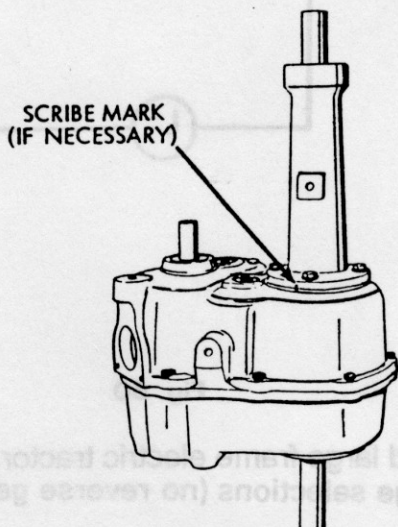

Figure 62 - Remove Axle Housings
NOTE: Mark the position of axle housings (Figure 62) to transaxle case assembly.
4. Remove axle shaft support housings (Figure 62) by removing attaching bolt and sliding the housing off the axle shafts. For servicing see page 51.
5. Remove axle seal and retainer. (Figure 62) Use axle as a driver.